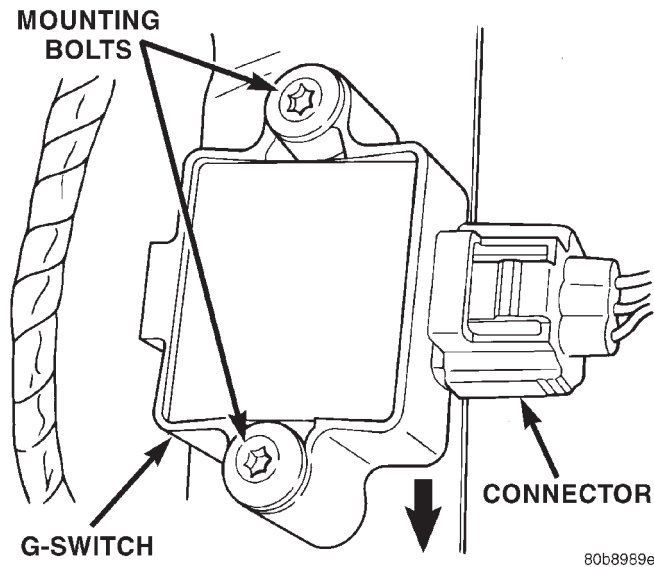

Fig. 14 G-Switch Mounting
- (1) Fold the rear seat bottom assembly up for access to the switch.
- (2) Lift up the carpeting and disconnect switch harness (Fig. 14).